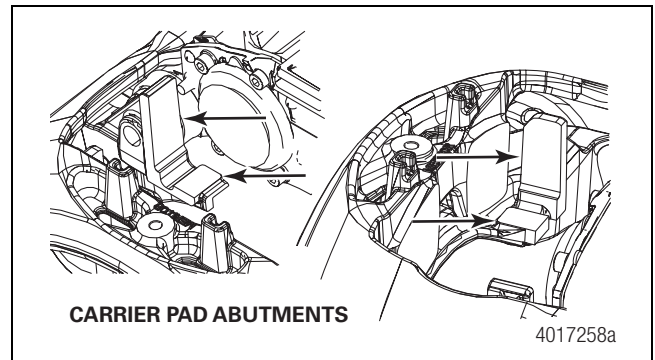

Figure 5.14
7. Inspect the carrier for signs of damage or wear. Pay particular attention to the pad abutments. Check for grooves on the pad abutments in excess of 0.02 inch (0.5 mm). Look for any carrier wear or damage that would cause the pad backing plate to catch and/or become cocked. Figure 5.13 and Figure 5.14.